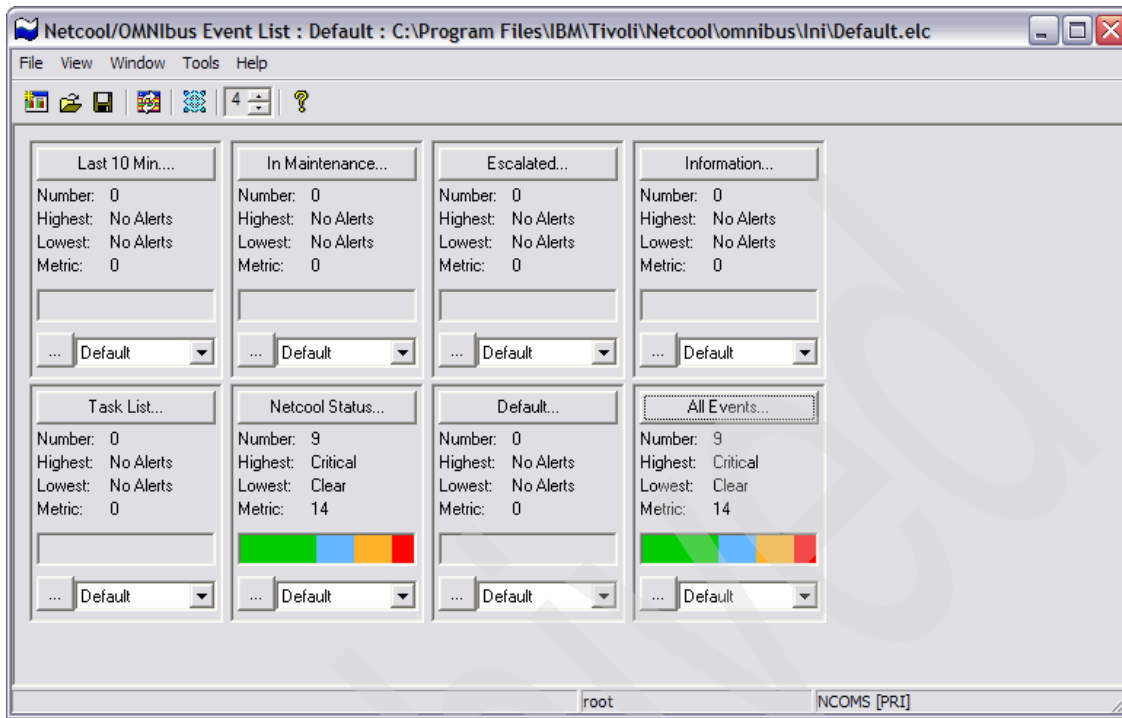

Figure 4-9 IBM Tivoli Netcool/OMNIBus Windows Even list default window
9. The desktop is shown in Figure 4-9 on page 91.